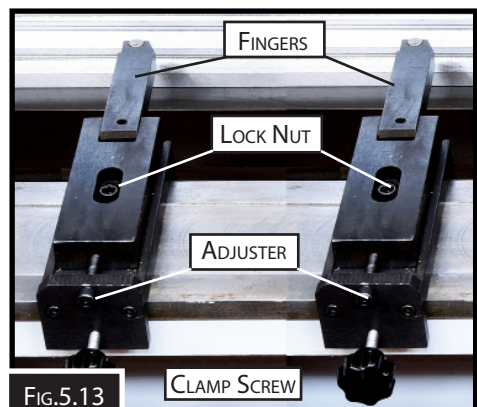

FIG.5.13
5. Once the height of the fingers has been set and the fingers have been moved to the position required, then final adjustment if required can be made to make sure that both fingers are the same distance from the die. If required the fingers can be moved in or out by loosening the lock nuts and using the adjust to move the fingers. Once in position re-lock the lock nut. (Fig.5.13)